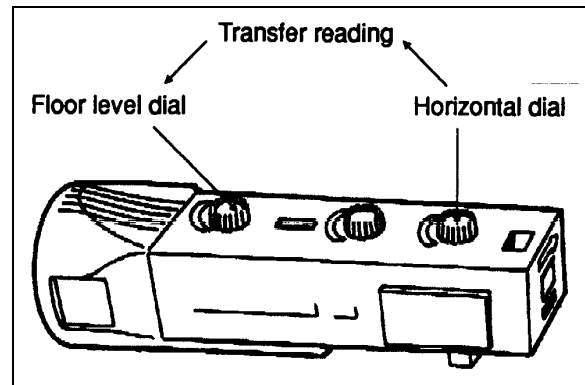

FIGURE 43: HEADLIGHT ALIGNER
6. Set according to floor slope. Transfer positive (+) or negative (-) reading of horizontal dial to the floor level offset dial to offset floor slope on each aligner (Fig. 43). Push on the floor level offset dial to register reading.